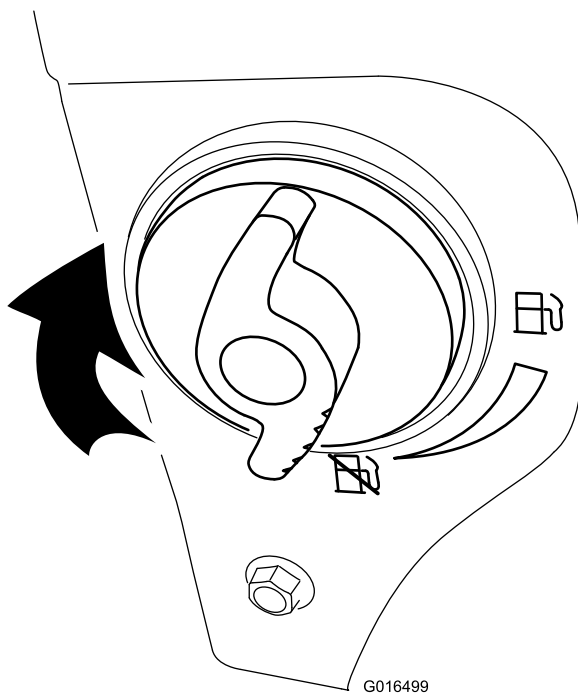

Figure 33
4. Close the fuel shutoff valve by rotating it clockwise (Figure 33).